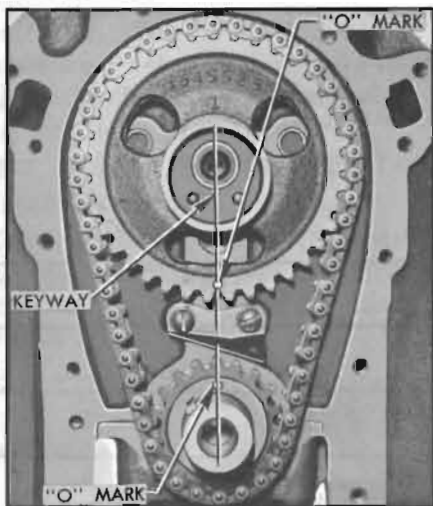

Figure 2-25—Timing Chain and Sprockets Properly Installed
4. If there has been doubt about the valve timing, turn crankshaft until the **camshaft** sprocket keyway is straight down toward the crankshaft and the "0" timing marks on both sprockets are toward each other and in line with shaft centers. See figure 2-25.
7. When ready to install timing chain, turn crankshaft until Nos. 1 and 4 pistons are on top dead center. Turn camshaft so that the sprocket key points straight down toward crankshaft. See figure 2-25.
8. Place timing chain over the camshaft and crankshaft sprockets so that the "0" marks stamped on front faces of sprockets are nearest each other and aligned between the sprocket hubs. Install sprockets with chain on the two shafts. See figure 2-25.